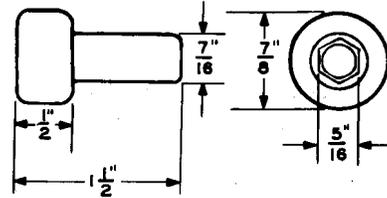

Fig. 6—219 Hex, Single-End Socket Wrench
2.06 **219:** The 219 tool (Fig. 6) is equipped with a 5/16-inch socket which forms part of the 221 tool. The 219 wrench is used on 51-type dial testers.